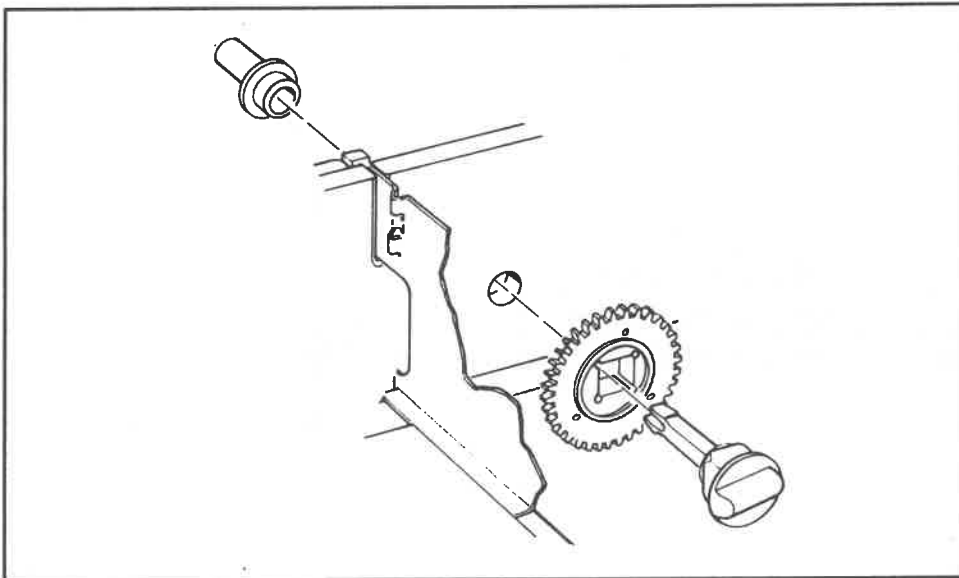

Figure S-7a
**INSTALLING A SPIRAL BEARING** (See Figure S-7a)